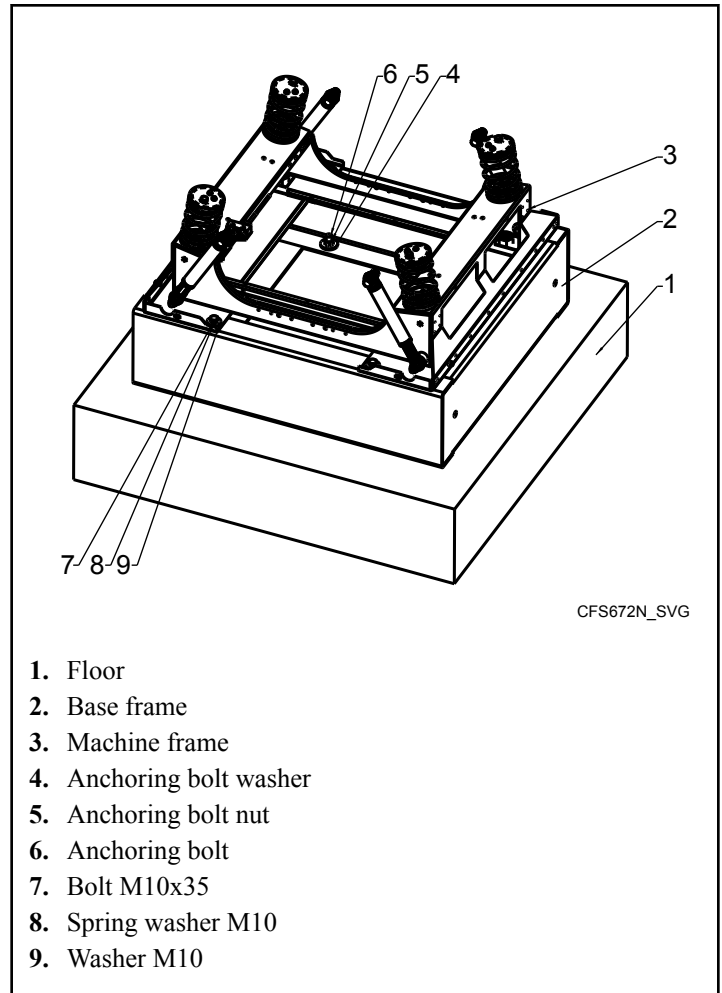

Figure 10
1. Drill four holes for anchoring bolts (6) into the floor. Refer to *Figure 10*. Refer to dimensions E and K in *Table 5* and *Table 6* for spacing of the holes. The diameter of the openings in the base frame is .49" [12 mm].
5. Place the washers (4) and nuts (5) on the anchoring bolts and tighten to a torque of 80 Nm. Refer to *Figure 10*.
11. Fasten the machine to the base frame using bolts M10x35 (7), washers M10 (9), and spring washers M10 (8). Refer to *Figure 10*. Tighten to a torque of 50 Nm.